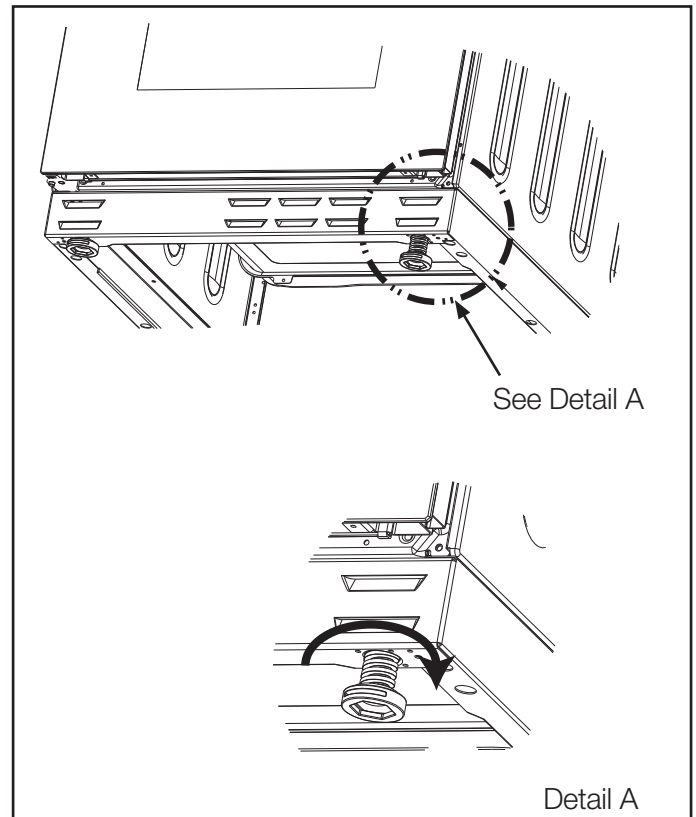

Figure 2
1. The height and level of the appliance can be adjusted by rotating the feet located underneath the appliance at each corner as shown in figure 2.